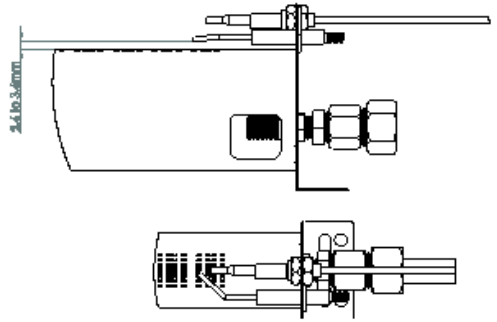

Figure 12
Open over doors. remove shelves and base plate. Undo nut that secures thermocouple to burner bracket. Remove sensor from burner bracket. Release thermocouple from clips in oven chamber. Remove Thermocouple by feeding through slot in oven side panel. Replace in reverse order, taking care not to over tighten, ensure side wall insulation around thermocouple access slot is undamaged then ensuring position as indicated in Figure 12.
Igniter is piezo spark type and contains no batteries. Unit comprises piezo spark igniter, lead and electrode assembly. Lead and earth lead are push-fit at igniter end. Oven igniter electrode, Thermocouple, and burner ports should be aligned as indicated in Figure 12.
Undo fixing that secures electrode to burner bracket. Remove electrode and replace in reverse order ensuring position is as indicated in Figure 12.
**Important:** if spark is present but burner will not light, ensure gas is present and dimensions are as (Fig 12)